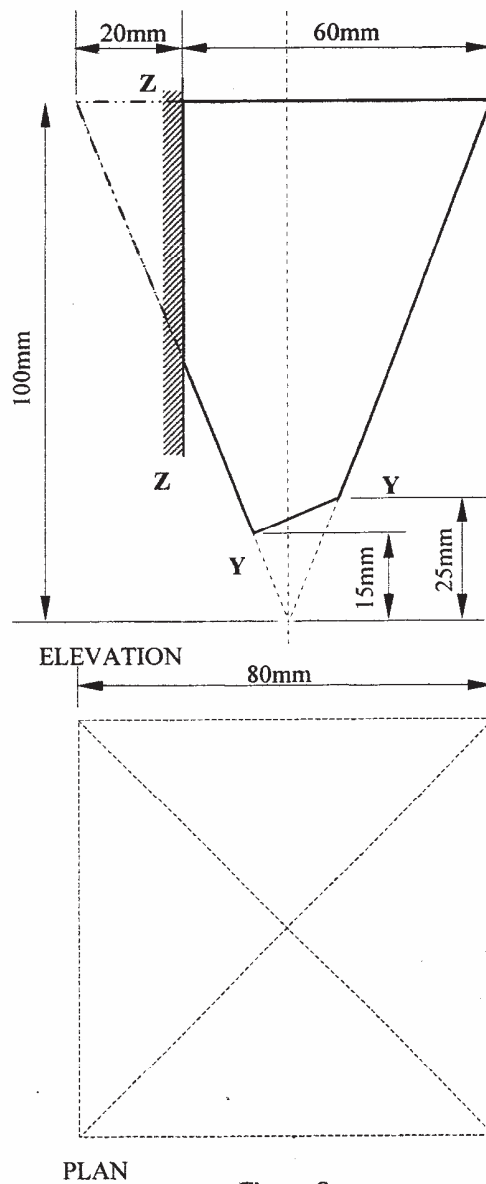

Figure 8
- 12 Figure 8 shows a feed hopper in the form of a square pyramid truncated along Y - Y and Z - Z.